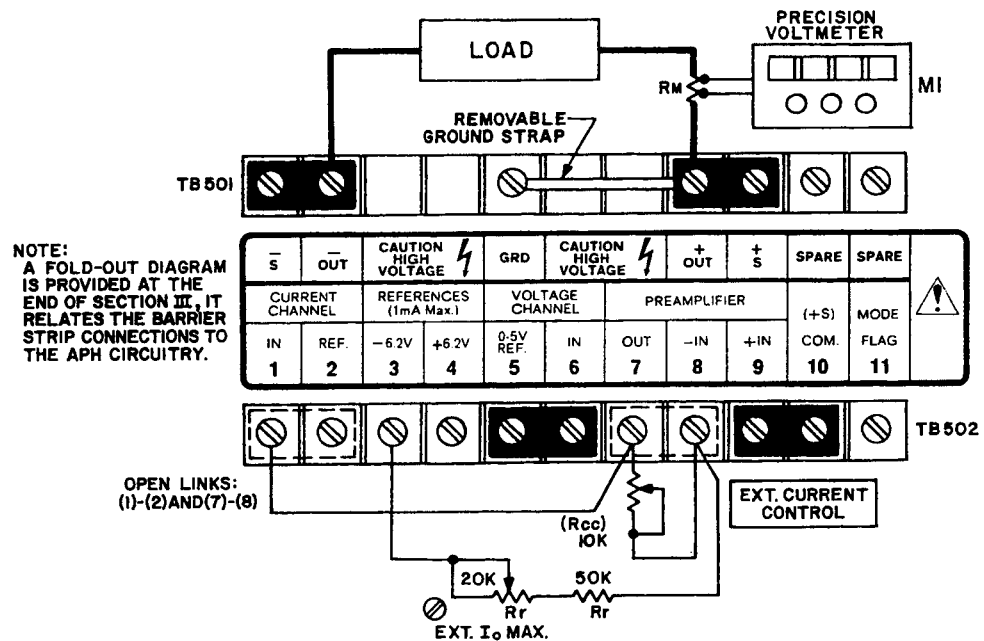

FIG. 3-8 CONNECTIONS FOR APH OUTPUT CURRENT CONTROL WITH A TWO-TERMINAL RESISTANCE.
- 1) Connect the selected EXT. CURRENT CONTROL resistance, the calculated reference resistor ( $R_r$ ), the LOAD and the OUTPUT CURRENT METER (M1) to the APH as shown in FIG. 3-8. NOTE:  $R_r$  should be divided into a fixed component and a calibrating rheostat (50 K and 20 K in the example).
NOTE: The output current value can be measured directly by means of a suitable milliammeter in series with the load, or as indicated in FIG. 3-8, indirectly by means of the precision voltmeter across a current measuring resistor ( $R_M$ ). ( $R_M$ ) should be selected such that a convenient range on the precision voltmeter can be used, e.g., for a 10 milliamper output current, use a 100 ohm resistor to produce one volt full scale. If an electronic voltmeter is used, it should be battery-operated to avoid ground loops.